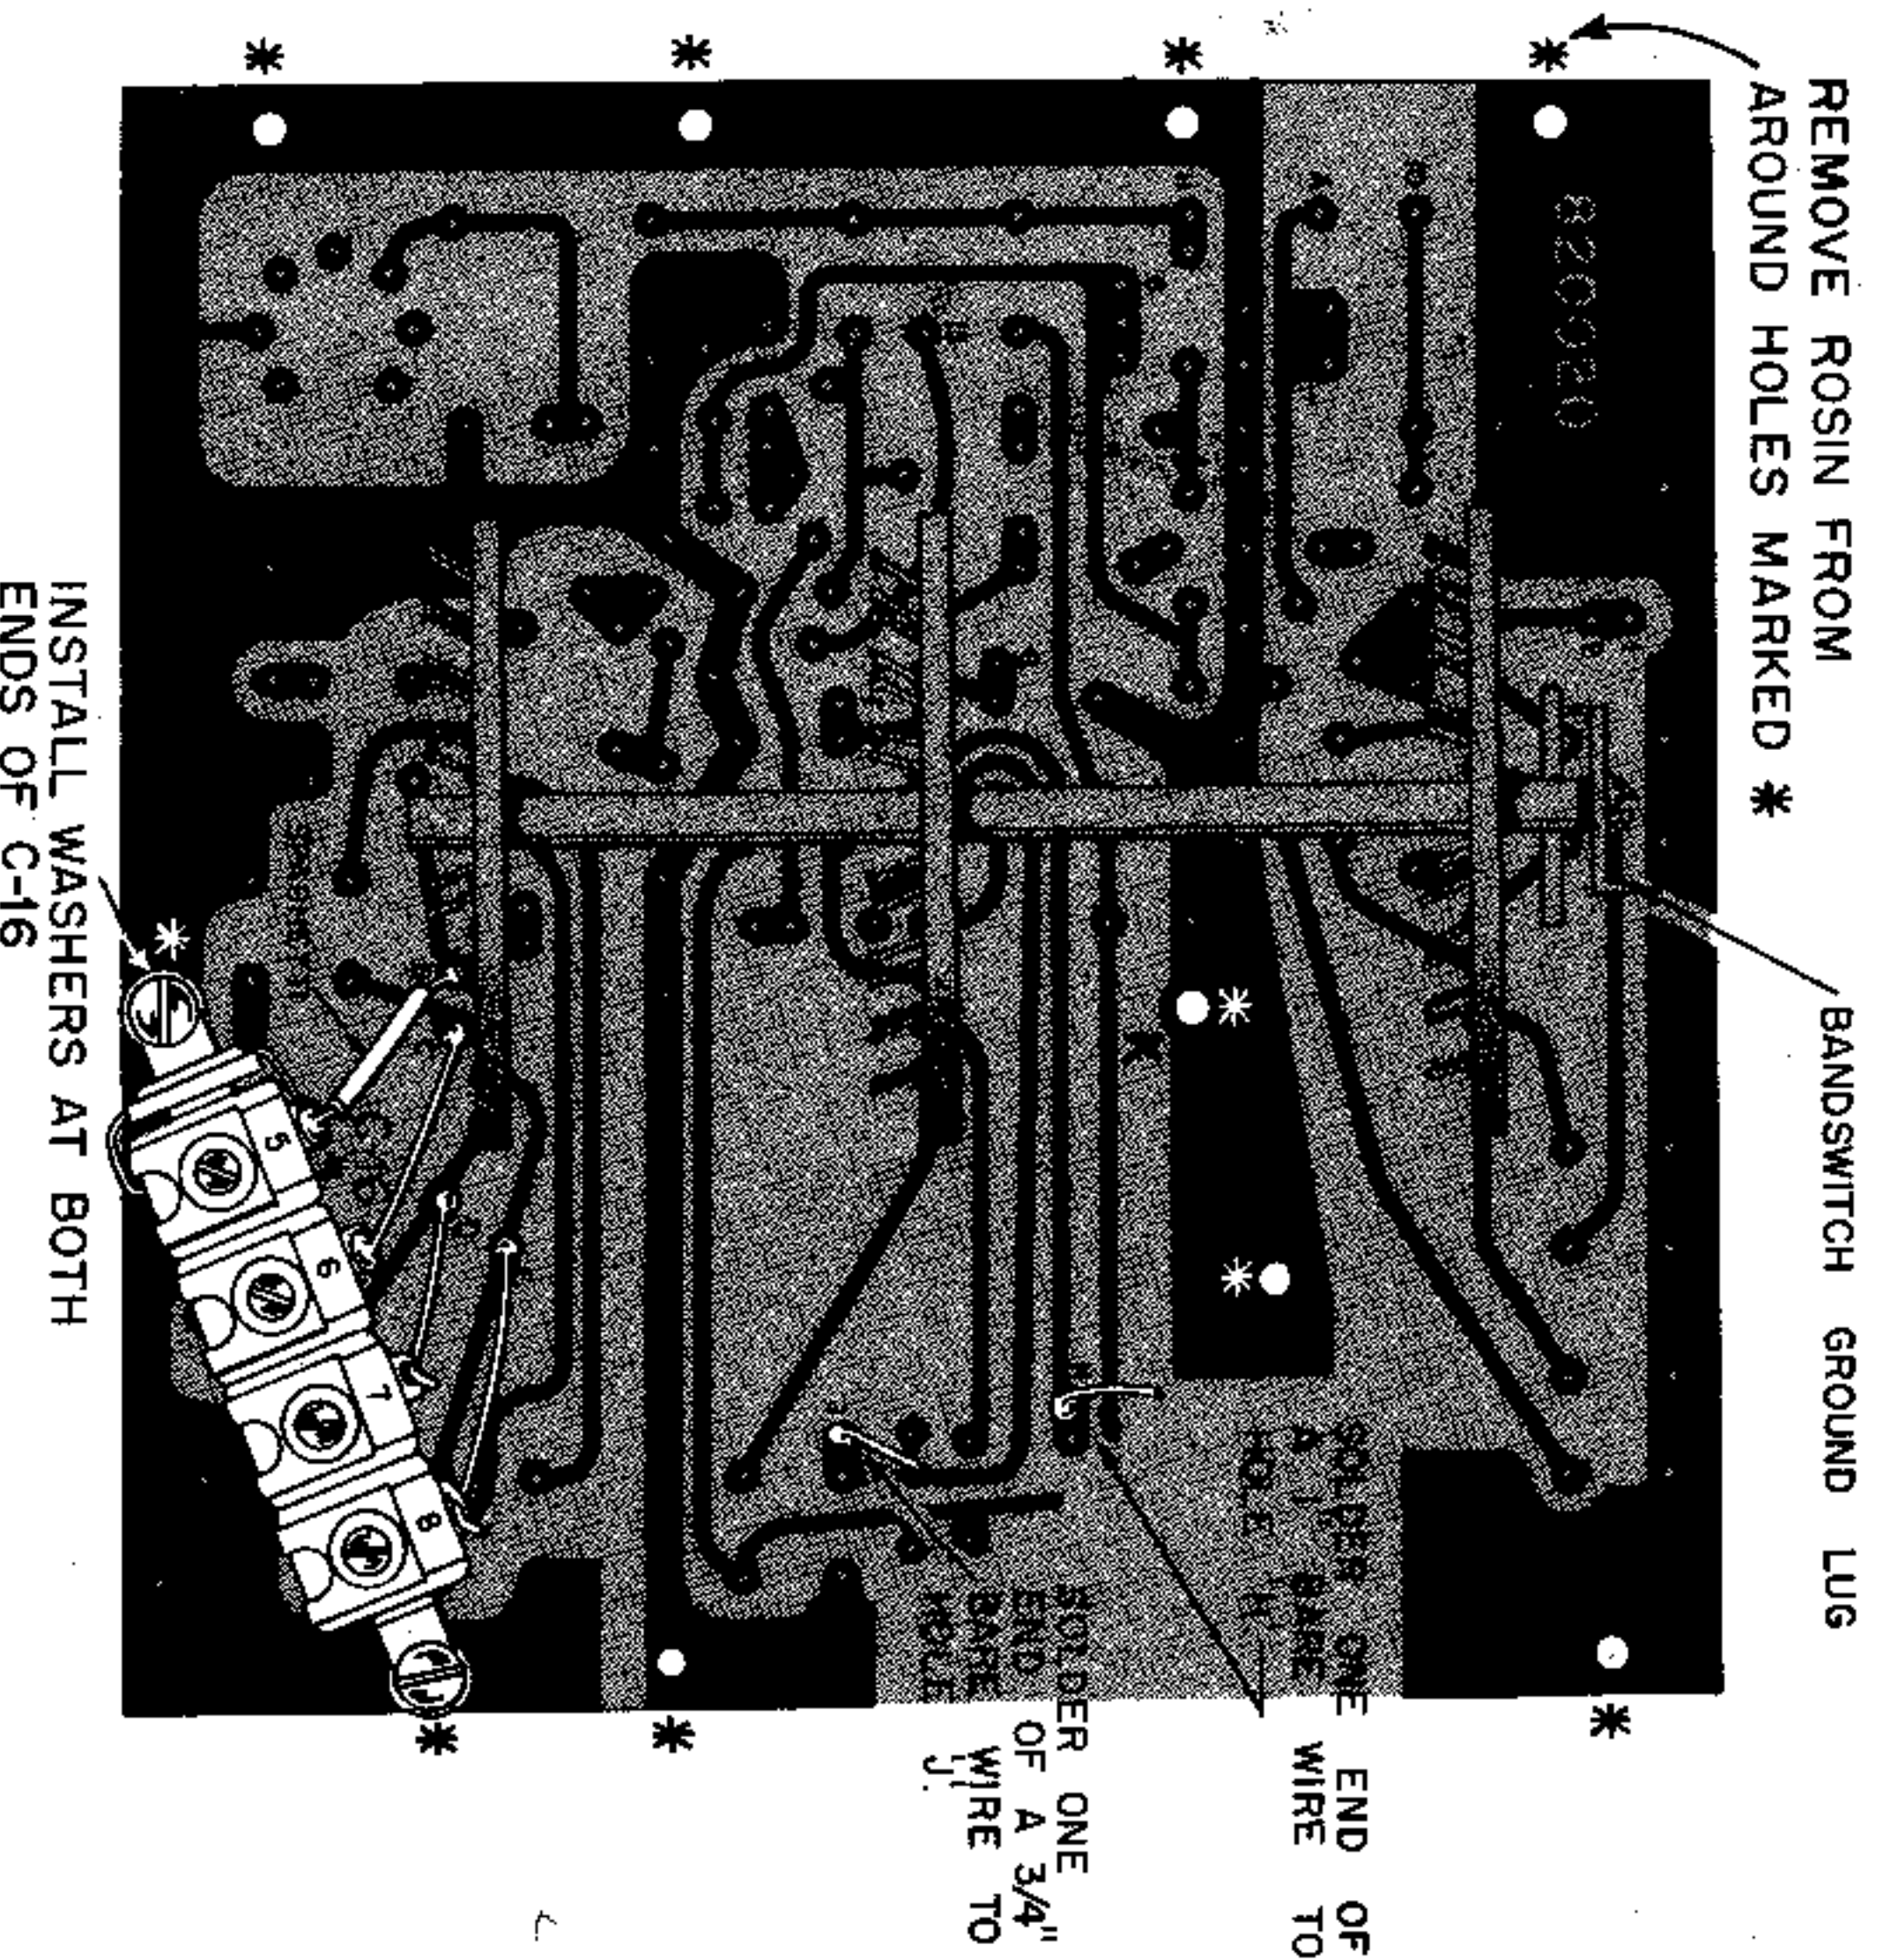

FIGURE 15. MOUNTING C-16 (TRIMMER STRIP)
SEE FIGURE 15.
- ☑ Good electrical contact between the foil side of the RF board and the RF subchassis is necessary for proper operation of your receiver. The foil side of the RF board may be coated with a protective layer of rosin. Remove it by lightly touching your hot soldering iron around the holes marked with an asterisk (*) as shown in Figure 15. The rosin will melt and a clean, shiny spot will appear.